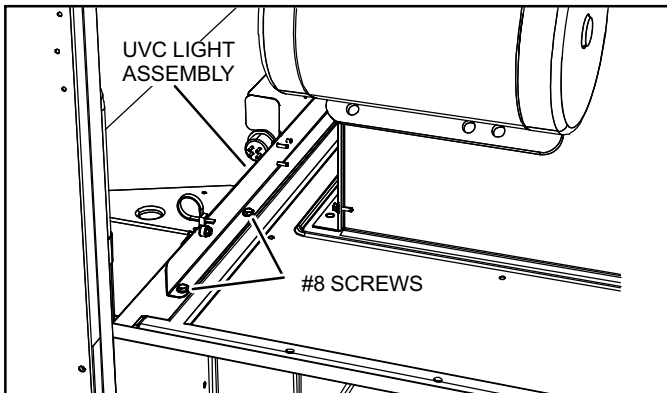

Figure 9. Attaching Light Assembly
2. Carefully place the UVC assembly on the blower deck. Line up the mounting holes on the UVC assembly with the mounting holes on the blower deck (see figure 9). Use the #8 screws provided to attach the UVC assembly in place.
8. Carefully place the UVC assembly on the blower deck. Line up the mounting holes on the UVC assembly with the mounting holes on the blower deck (see figure 9 on Page 8). Use the #8 screws provided to attach the UVC assembly in place.